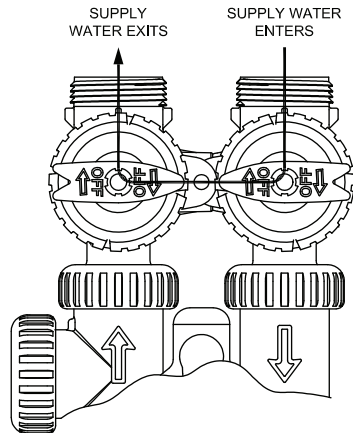

Figure 3
- 1) Turn the Inlet side on the Red-Handled Bypass to the Diagnostic Mode (leave the outlet closed for now) (See 'Diagnostic Mode' pg 15, Fig 3). Slowly open the home's main shutoff valve (only partially at this time) and allow the softener to fill. Check for leaks. Address any leaks. If no leaks are present, open the home's main shutoff valve.
- 3) Diagnostic Position: The inlet handle points in the direction of flow and the outlet handle points to the center of bypass valve. System water pressure is allowed to the Control Valve and the plumbing system while not allowing water to exit from the Control Valve to the plumbing. (See 'Diagnostic Mode' pg 15, Fig 3)